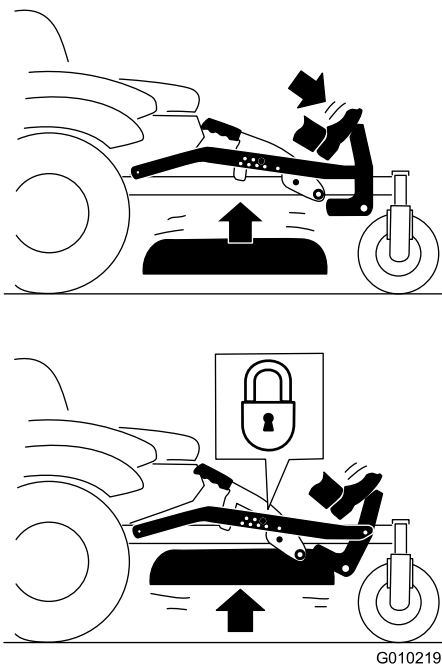

Figure 27
1. Press the pedal down to raise the deck; continue to press the pedal until the deck is locked in the transport position (Figure 27).